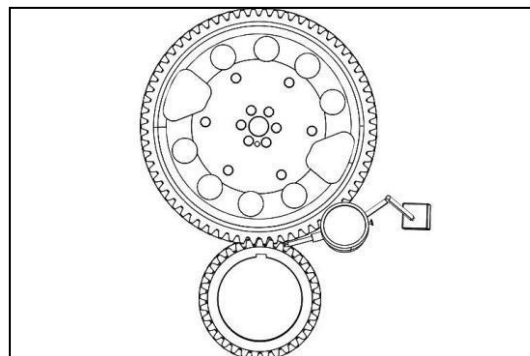

Figure 91
1. Install a dial indicator as shown in Figure 91.